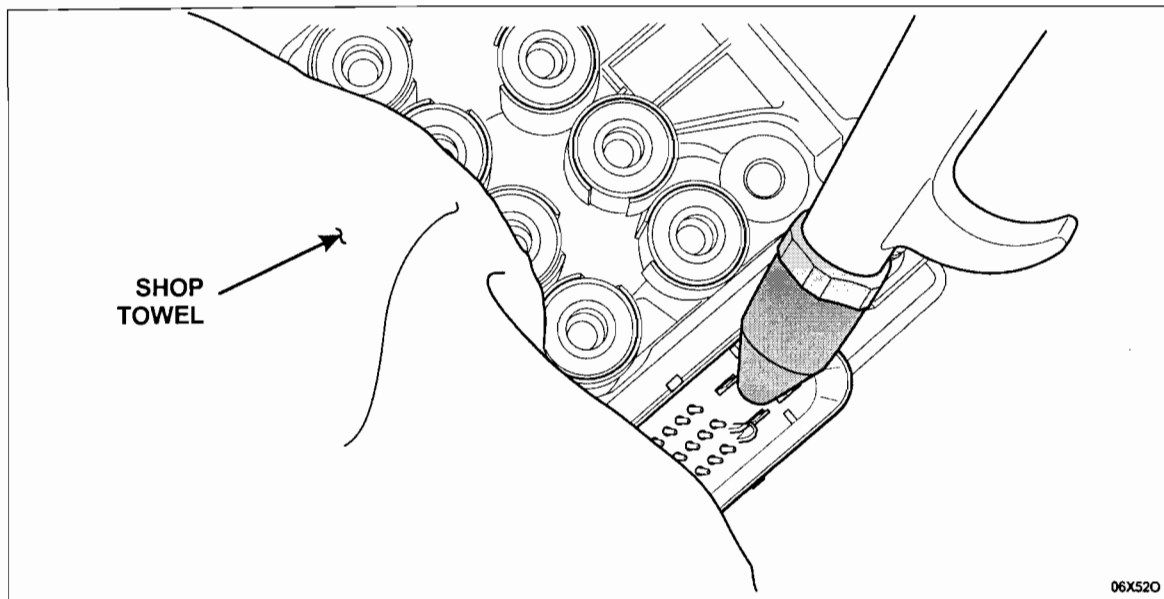

FIGURE 15
10. Using a shop towel to shield against splash-back, blow dry the area with compressed air and check the results. If further cleaning is needed, repeat Steps 9 and 10. See Figure 15.